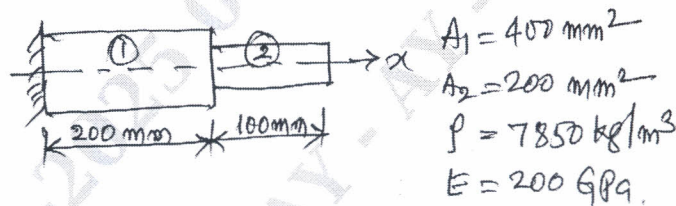

Fig.Q.10(b)
b. Determine the natural frequencies of stepped bar as shown in Fig.Q.10(b).